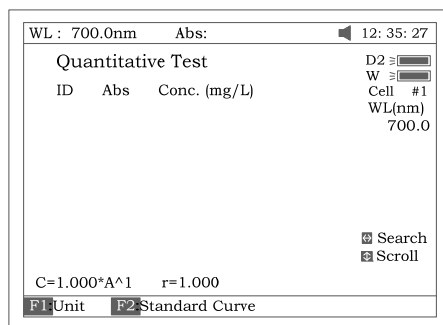
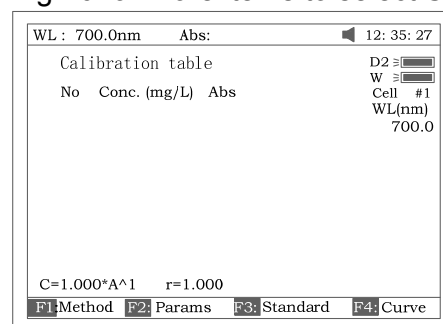
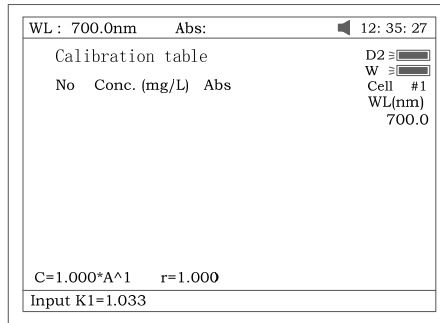
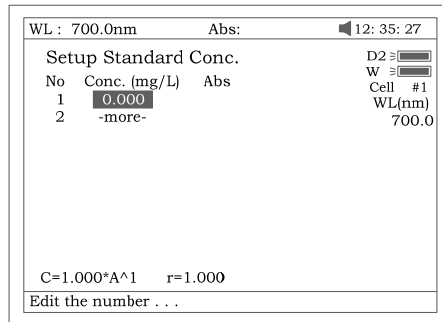

Fig 26
Fig 29
Fig 29A
Fig 30
Press [2] in Main Menu for “Quantitative” Test (Fig 26). Press [ESC/STOP] to exit. Note: If no automatic changer installed “cell #1” will disappear in Fig26.
3. Press [F2] in Fig 26 for more items to select See Fig 29.
- 3.1 Press [F1] in Fig 29 to select fitting method. There are 4 methods for you to choose: Linear fit, linear fit through zero, square fit and cubic fit.
- 3.2 Press [F2] in Fig 29 to enter directly a known standard curve Fig 29A.
3.3 Press [F3] in Fig 29 to establish a standard curve by measuring a group of standard samples. See Fig 30.
- b) Known standard curve, which is not saved in the instrument. See 3.2. For Fig 29 enter a known standard curve directly.
Note: All sample results must be taken in screen Fig26.